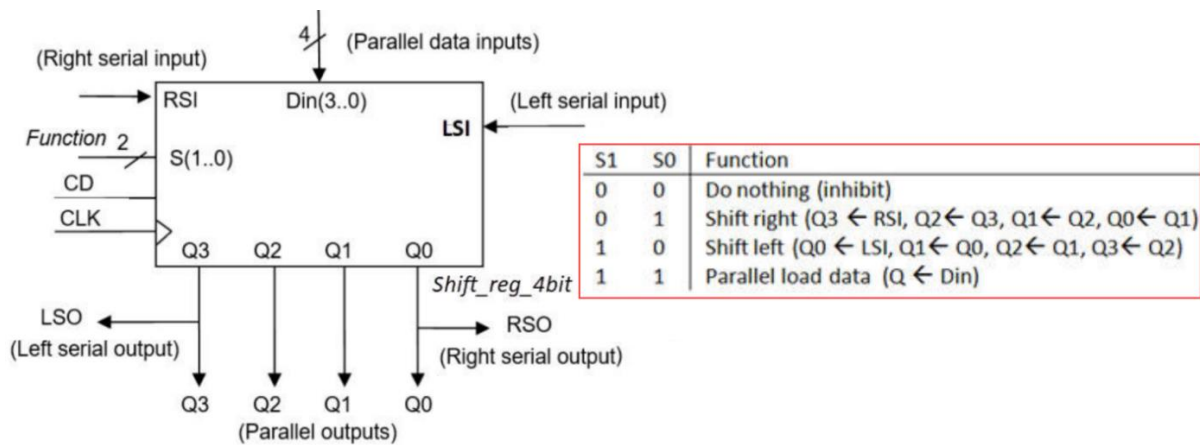

Fig. 4. Symbol of the 4-bit standard binary shift register component (*Shift_reg_4bit*).
4. Design a synchronous 6-bit binary sequencer with *CE* and reversibility (*UD_L*) using **plan C2** and the basic shift register proposed in Fig. 4 and other components and combinational circuits if necessary. The output codes generated are: 010100, 101000, 010001, 100010, 000101, 001010, 010100 ...